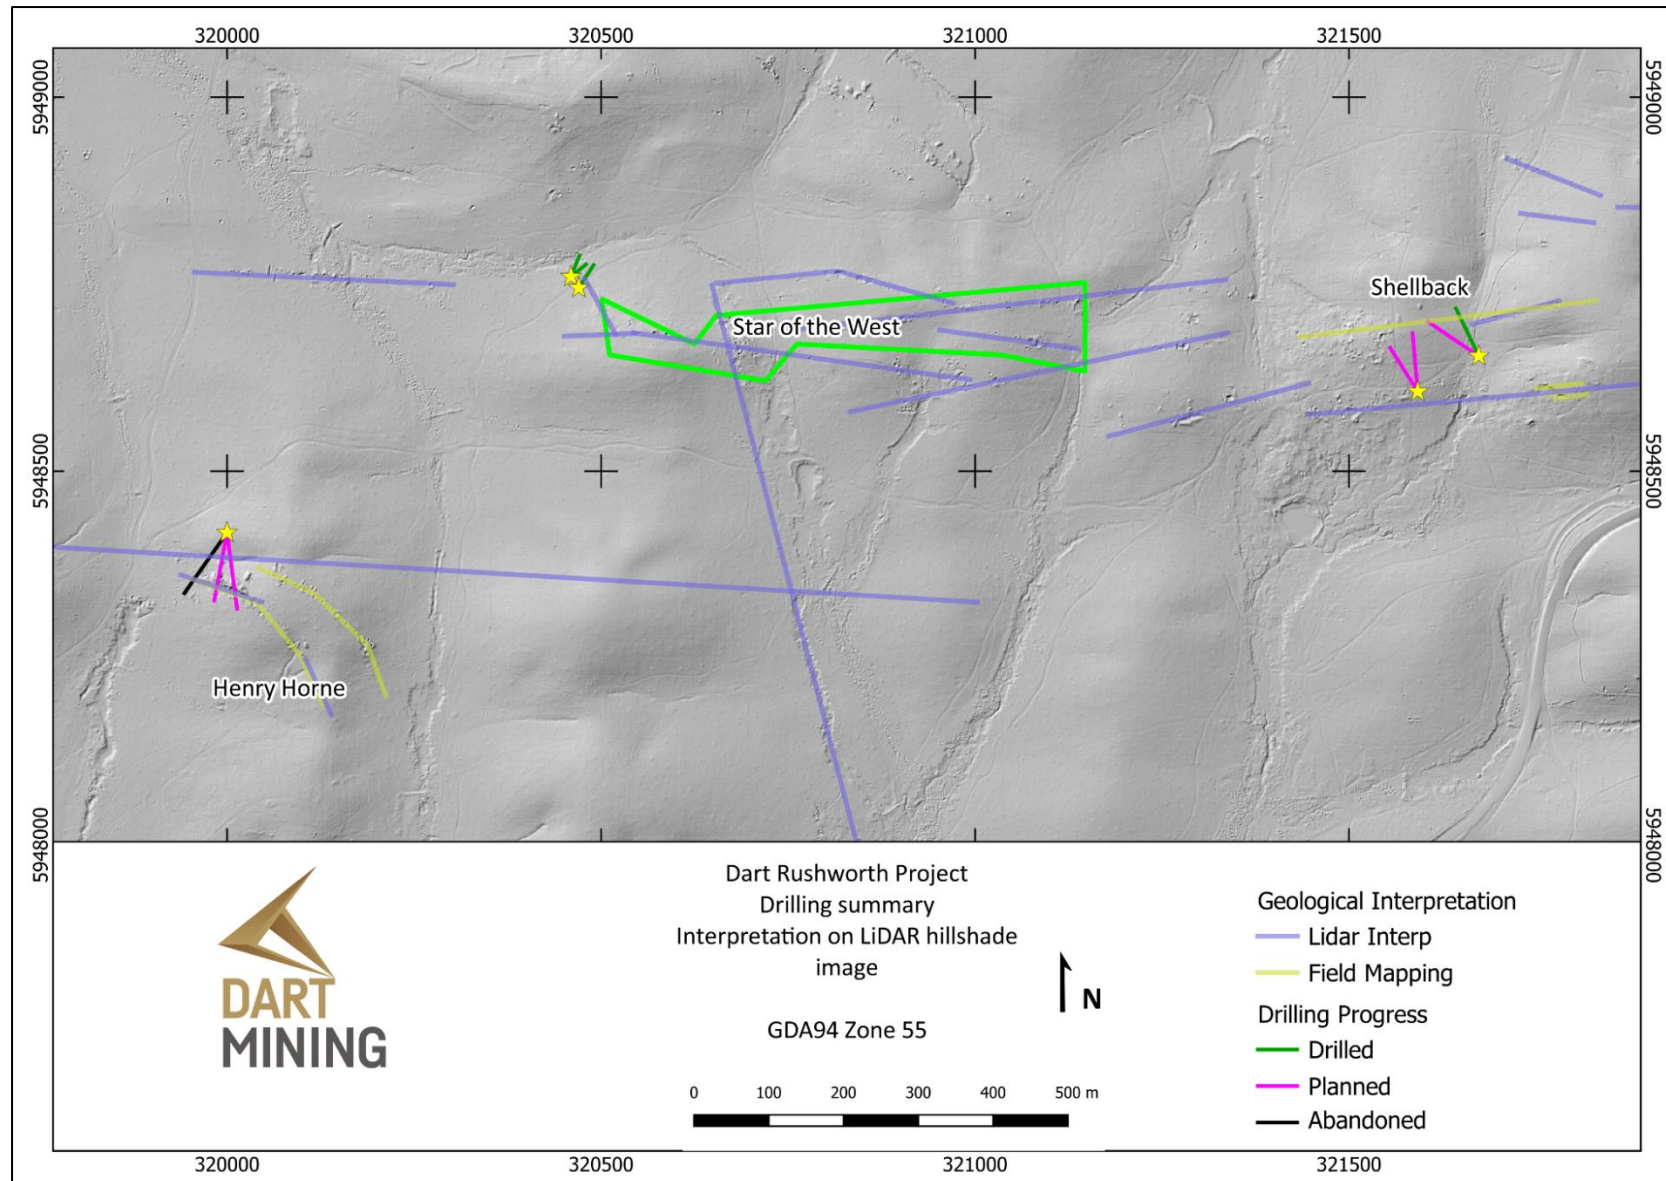

Figure 6: Phase 2 drilling progress, tenement boundary outline in green under application to amalgamate into surrounding EL006016.
- Phase 2 drilling has commenced with 472m of a planned 1,620m completed at Star of the West, Henry Horne (formally known as Star of the West West) and Shellback Reef shown in Figure 6.